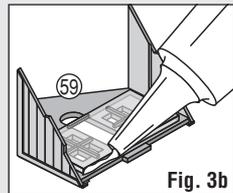

Fig. 3b
- Repeat for each set of window openings, including Dormers x2 (59) (**Fig. 3b**).